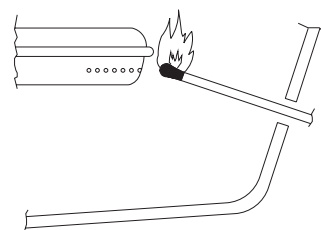

Figure 16
6. If a burner does not light, turn OFF all gas and refer to the Troubleshooting section of this manual. **See Figure 16.**